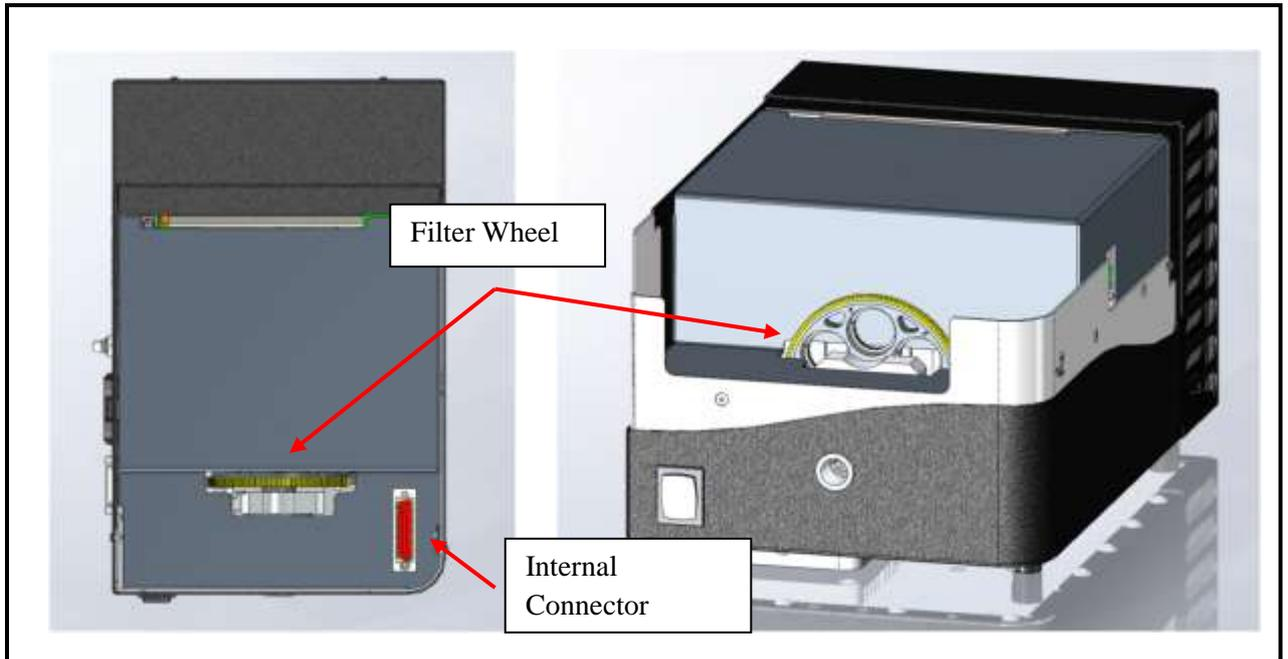

Fig 2 – The LumenPro200 Filter Wheel Compartment
5. Lift the top of the unit, applying particular pressure to the front right corner to disconnect the internal connector. See Fig 2.